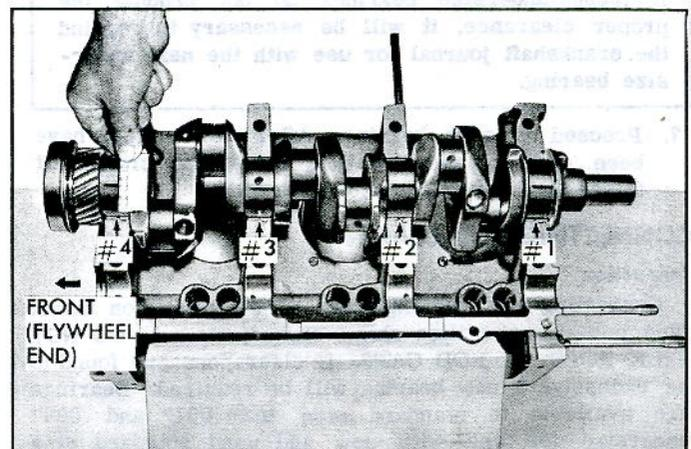

Fig. 122—Measuring Gauging Plastic on Journal
2. Place a piece of gauging plastic the full width of the bearing parallel to the crankshaft on the journal (fig. 122).
5. Without removing the gauging plastic, check its compressed width (at the widest point) with the graduations on the envelope (fig. 122).
NOTE: Install a piece of plastic hose with 5/16" L.D. over each bolt (fig. 122).